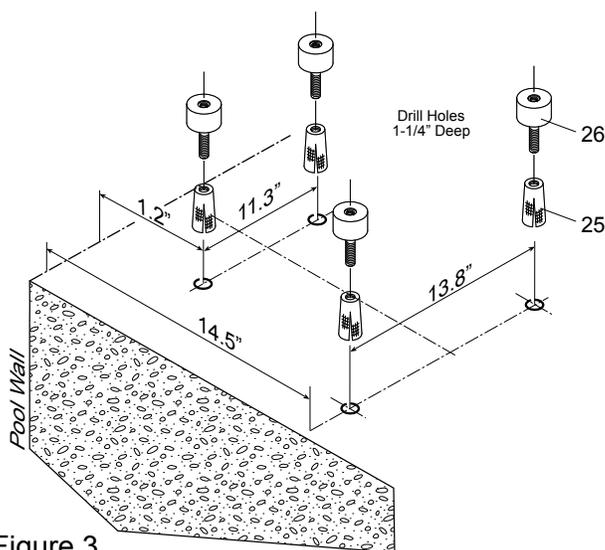

Figure 3
6. Install the four (4) rubber mounts (part# 26) into the four (4) M8 pool deck anchors (part# 25). Tighten down completely. (*See Figure 3*)